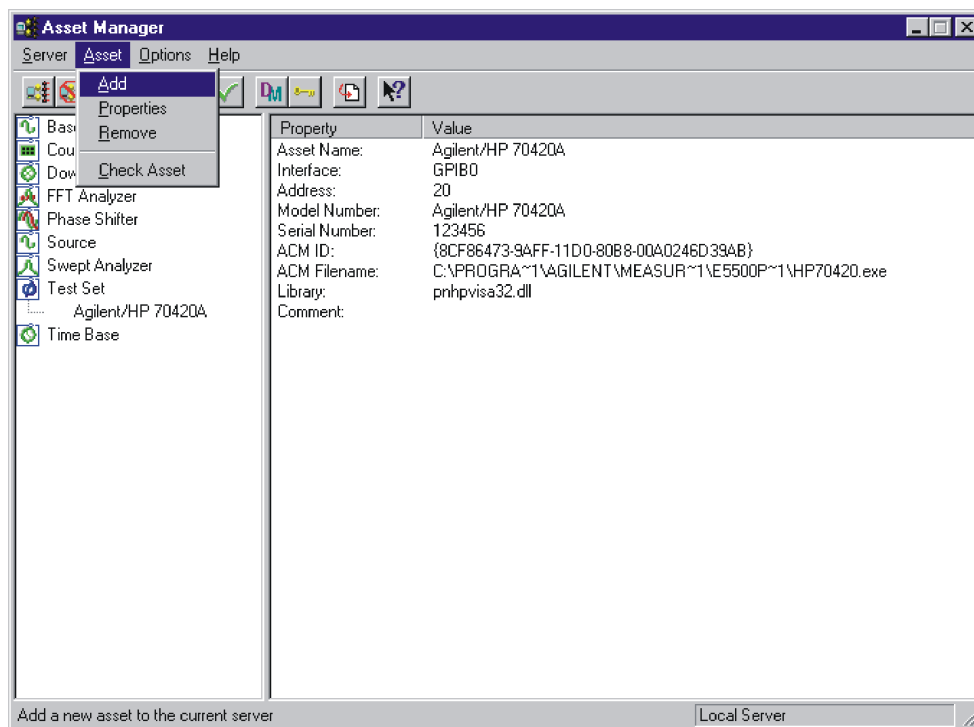

Figure 1-20 Add Assets
- 1 From Asset Manager, click **Asset**, then click **Add**. See Figure 1-20.